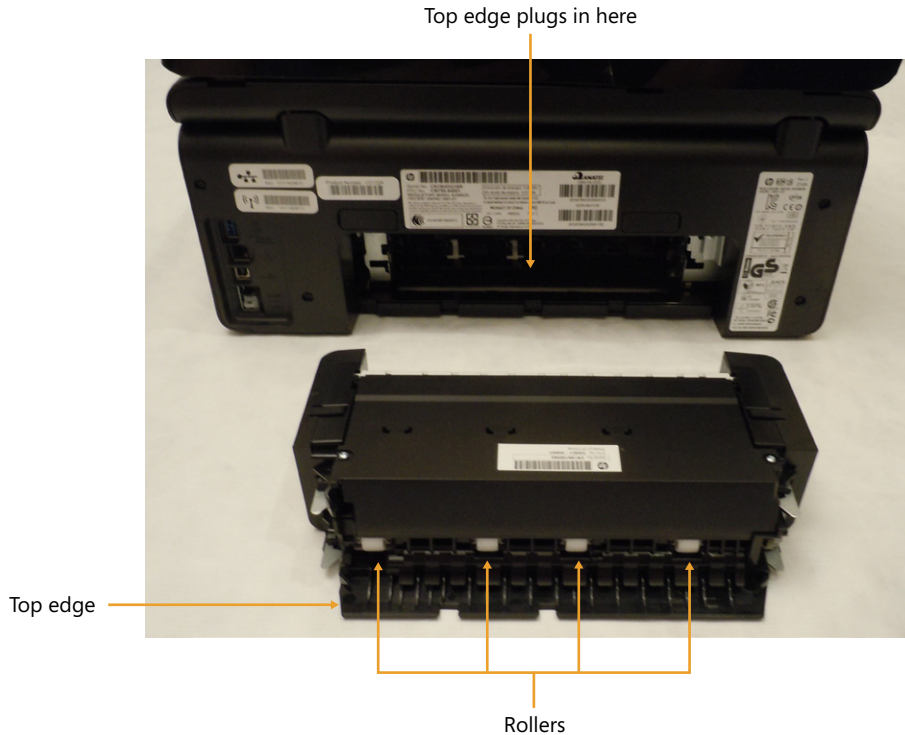

FIGURE 7-1 Duplexer on back of inkjet printer.
- **Duplexing assembly.** Printers with a *duplexing assembly* can print double-sided print jobs. They flip the page so that the printer can print on the other side. Figure 7-1 shows an example of a duplexing assembly from an HP OfficeJet printer. It normally plugs into the back of the printer, but it's removed and turned over so that you can see the rollers. Printer settings often include a setting to enable or disable duplexing when two-sided printing is supported.